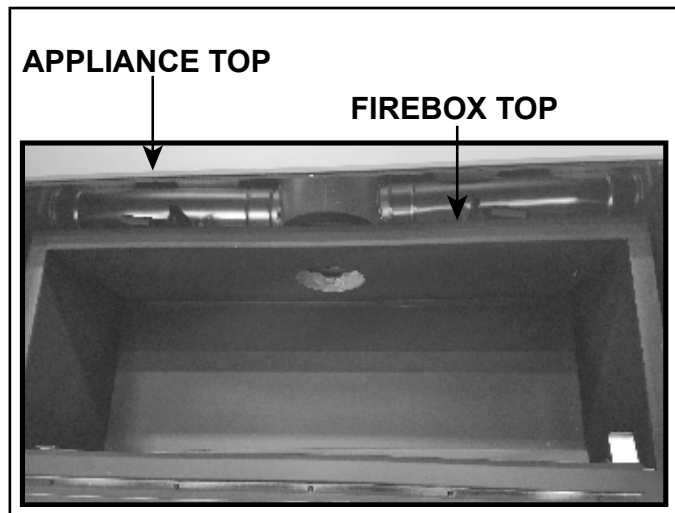

Figure 5.9
8. Inspect for and remove all debris that may have accumulated or objects that may have been placed on the firebox top and appliance top during the installation process. All debris and objects must be removed prior to operation of the appliance. Firebox top and appliance top are shown in Figure 5.9.